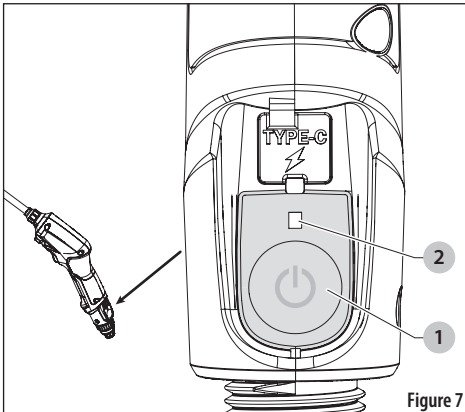

Figure 7
1. Press the power button (1) to turn the sprayer ON. A light (2) above the power button turns on to indicate the battery level. See *Figure 7*.
- 3. Press the power button to turn the power wand sprayer OFF. See Figure 7.